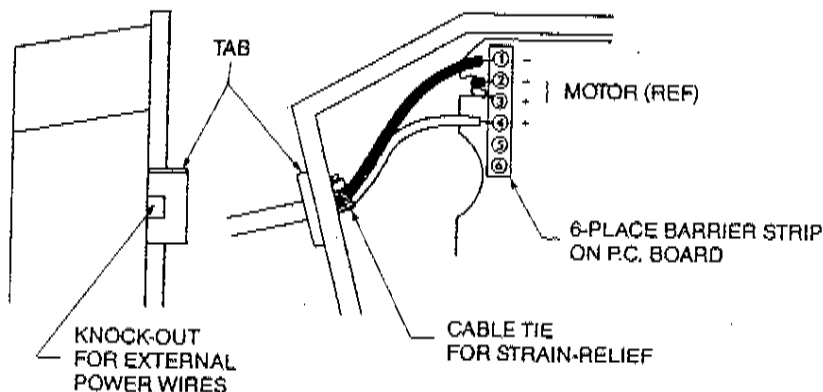

Figure 12. QMT External Power
Step 3. Refer to Figure 12. Remove knockout.
- Step 5. Note the color and positions of the wires at the terminal block (Figure 12).